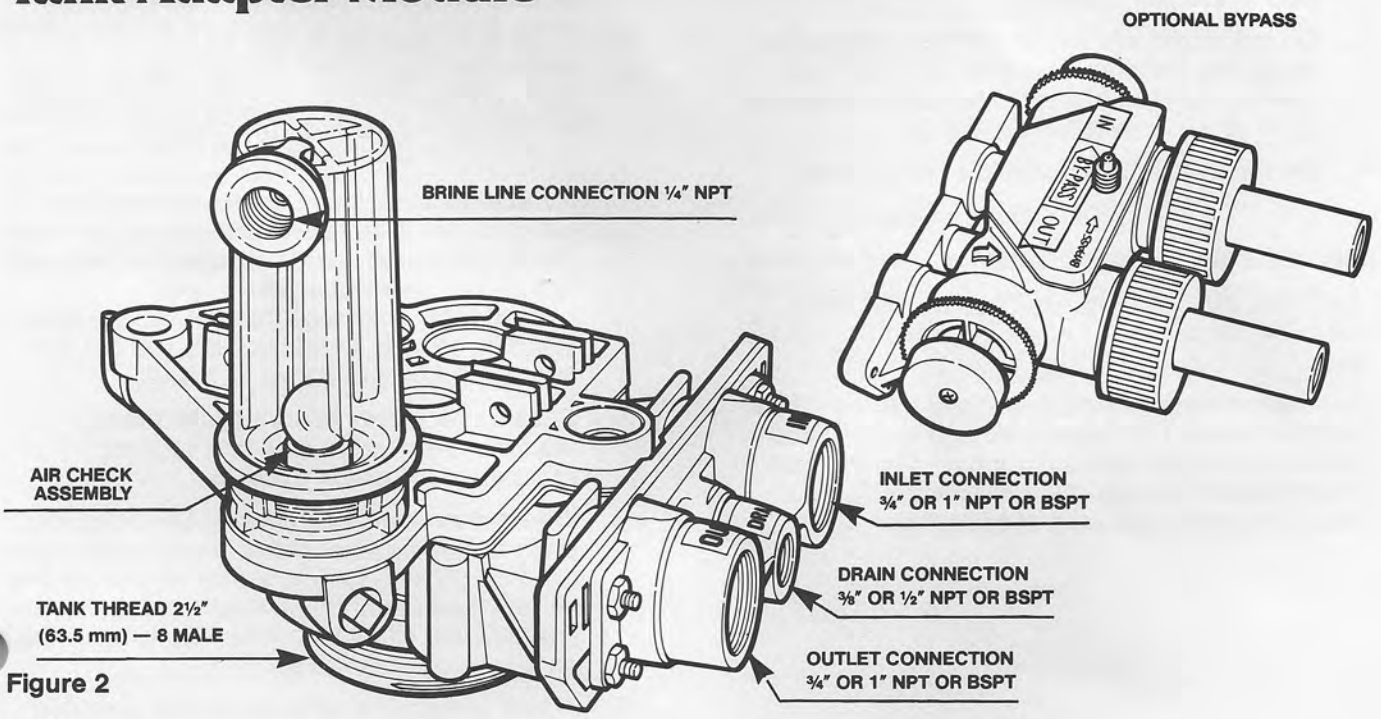

Figure 2
- A. If ideally located, the unit will be above and not more than 20 feet (6.1 m) from drain. For such installations connect ½-inch (1.3 cm) I.D. plastic tubing to DRAIN LINE CONNECTION located on CONTROL (Figure 2).
On two-tank model conditioners with separate brine tanks, it will be necessary to install the brine/regenerant tube and connect the line to the control valve air check (Figure 2).